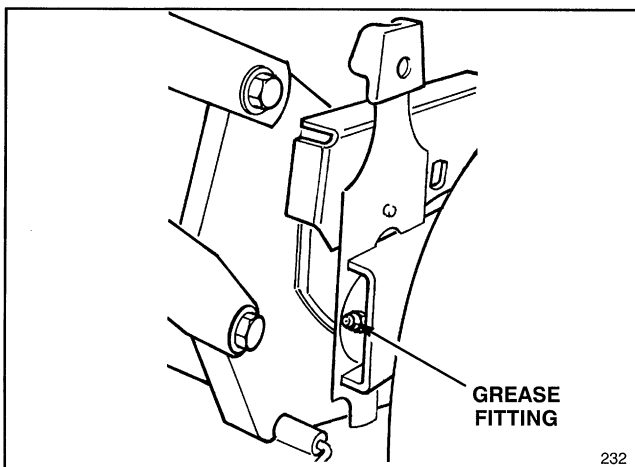

Figure 24
1. Move rear wheel height-of-cut levers to center setting. Wipe grease fittings with clean rag (Fig. 24). Install grease gun onto fitting and gently apply 2 or 3 pumps of #2 Multi-Purpose Lithium Base Grease. Excessive grease pressure may damage seals.